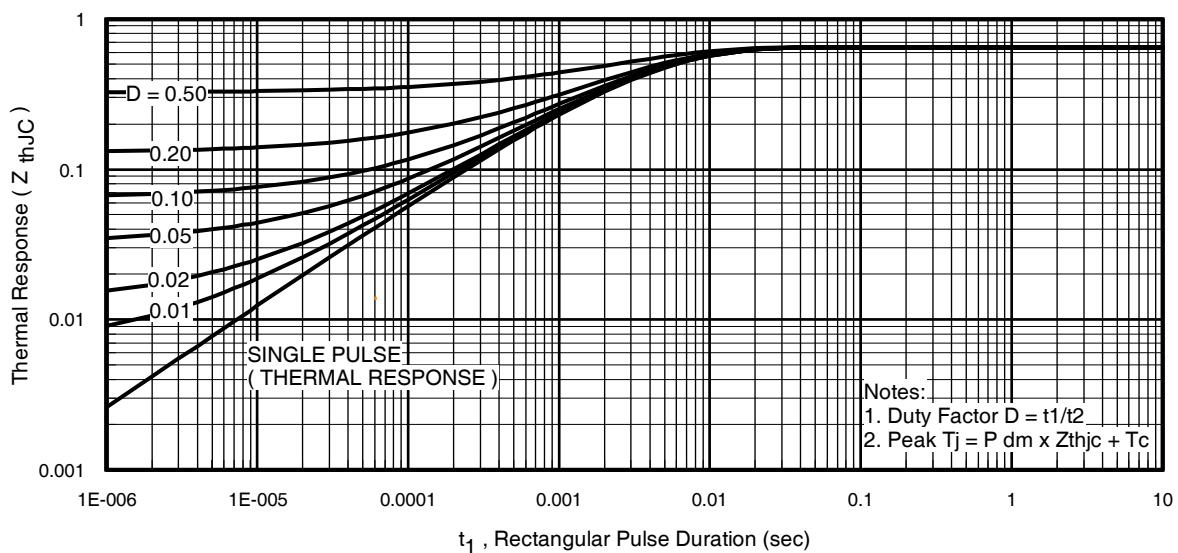
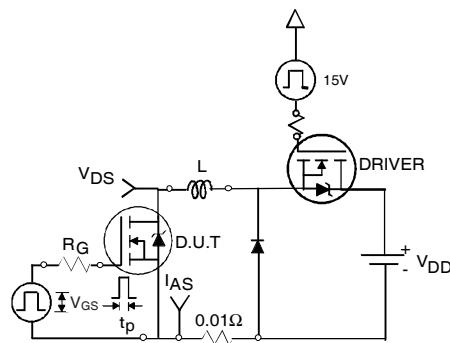

Fig 11. Maximum Effective Transient Thermal Impedance, Junction-to-Case
Fig 12a. Unclamped Inductive Test Circuit
- ① Repetitive rating; pulse width limited by max. junction temperature. (See fig. 11).
- ② Limited by $T_{J\text{max}}$, starting $T_J = 25^\circ\text{C}$, $L = 0.10\text{mH}$ $R_G = 25\Omega$, $I_{AS} = 75\text{A}$, $V_{\text{GS}} = 10\text{V}$. Part not recommended for use above this value.
- ③ Pulse width $\leq 1.0\text{ms}$; duty cycle $\leq 2\%$.
- ④ $C_{\text{oss eff.}}$ is a fixed capacitance that gives the same charging time as C_{oss} while V_{DS} is rising from 0 to 80% V_{DSS} .
- ⑤ Limited by $T_{J\text{max}}$, see Fig.12a, 12b, 15, 16 for typical repetitive avalanche performance.
- ⑥ This value determined from sample failure population. 100% tested to this value in production.
- ⑦ This is applied to D²Pak, when mounted on 1" square PCB (FR-4 or G-10 Material). For recommended footprint and soldering techniques refer to application note #AN-994.
3. Equation below based on circuit and waveforms shown in Figures 12a, 12b.
- $Z_{thJC}(D, t_{av})$ = Transient thermal resistance, see figure 11